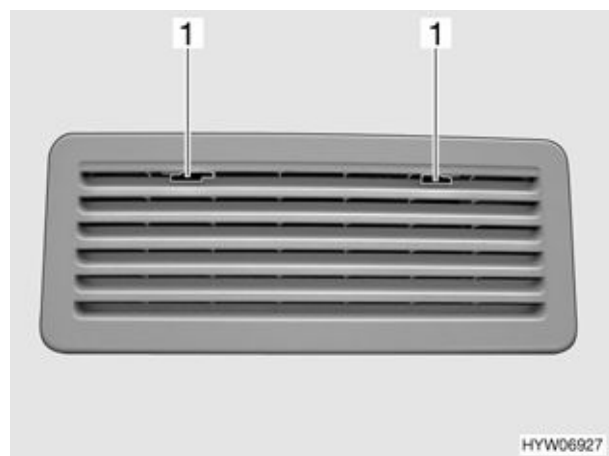

Fig. 144 Refrigerator ventilation grill (variant 2)
- Move the locking device (Fig. 144,1) to the middle.